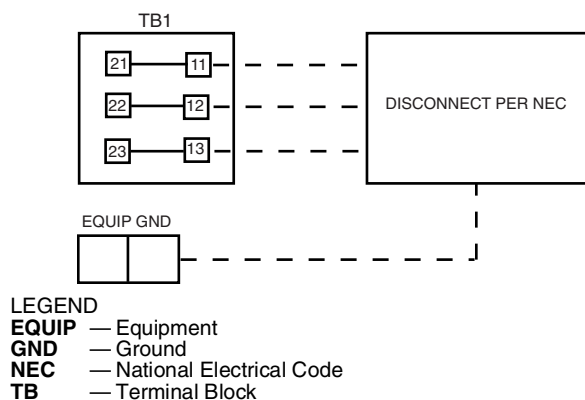

Fig. 21 — Field Power Wiring Connections
When installing units, provide a disconnect per NEC (National Electrical Code) of adequate size (MOCP [maximum overcurrent protection] of unit is on the informative plate). All field-wiring must comply with NEC and all local codes. Size wire based on MCA (minimum circuit amps) on the unit informative plate. See Fig. 21 for power wiring connections to the unit power terminal block and equipment ground. Maximum wire size is two (2) 500 MCM (maximum wire size) conductors per pole.